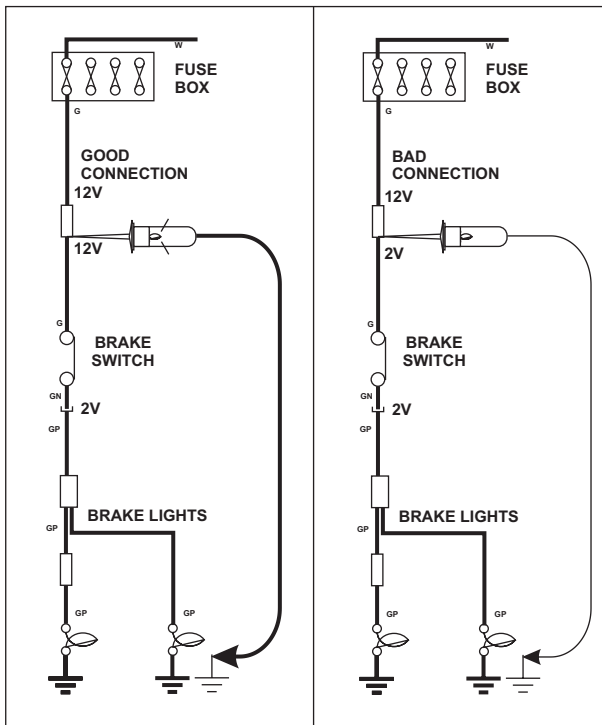

FIGURE 3
1. Always check both sides of any connector or switch you are testing. As shown in **figure 3**, if they are good, the voltage will be the same on both sides of the item. If you have a significant noticeable difference, the connector or switch should probably be replaced or repaired. Replacement or repair is most definitely called for if the difference is near one volt or more.